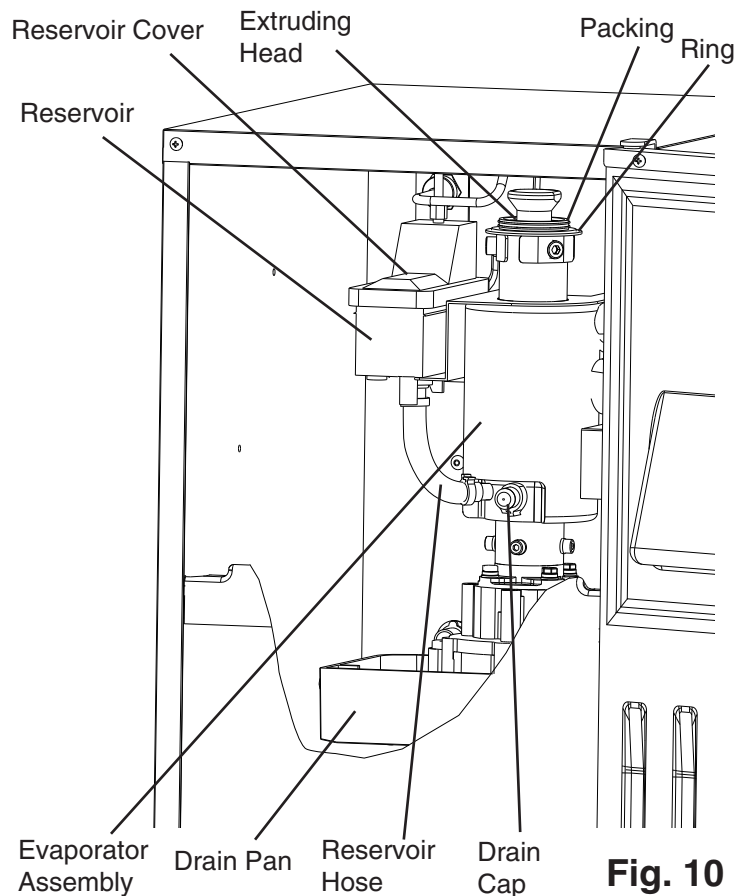

Fig. 10
- 9) Remove the clamp securing the drain cap to the evaporator, then pull off the drain cap to drain the water from the reservoir and evaporator assembly. See Fig. 10.
- 10) Remove the clamp securing the drain cap to the evaporator, then pull off the drain cap to drain the water from the reservoir and evaporator. See Fig. 10.